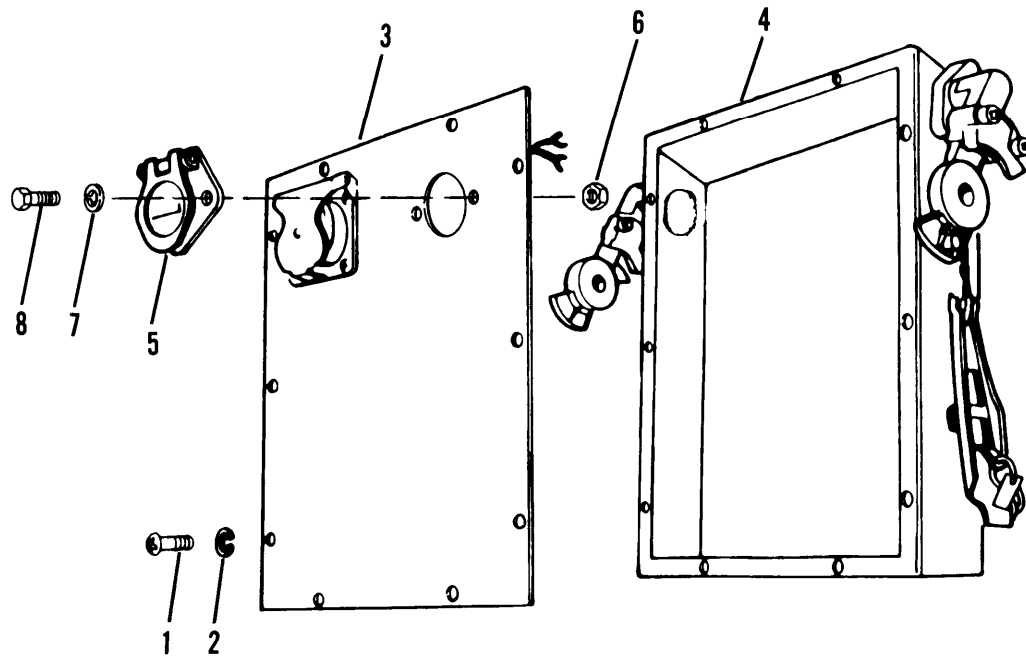

Figure 4-1. 12 Volt Receptacle
- (1) Remove ten screws (1, fig. 4-1) and ten washers (2).
- (2) Ease the nose box cover (3) away from the nose box (4).
- (3) Tag wires to 12 volt receptacle (5).
- (1) Install 12 volt receptacle (5, fig. 4-1) in nose box cover (3). Secure receptacle (5) with two bolts (8), lockwashers (7) and nuts (6).
- (3) Tighten seven screws on receptacle (5, fig. 4-1).